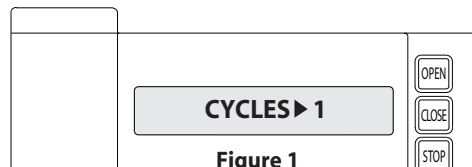

Figure 1
- 2) Press SCROLL  (up or down) until display reads "CYCLES>1,2,3 etc. where the number is the number of open/close cycles the operator has performed. **Figure 1**.